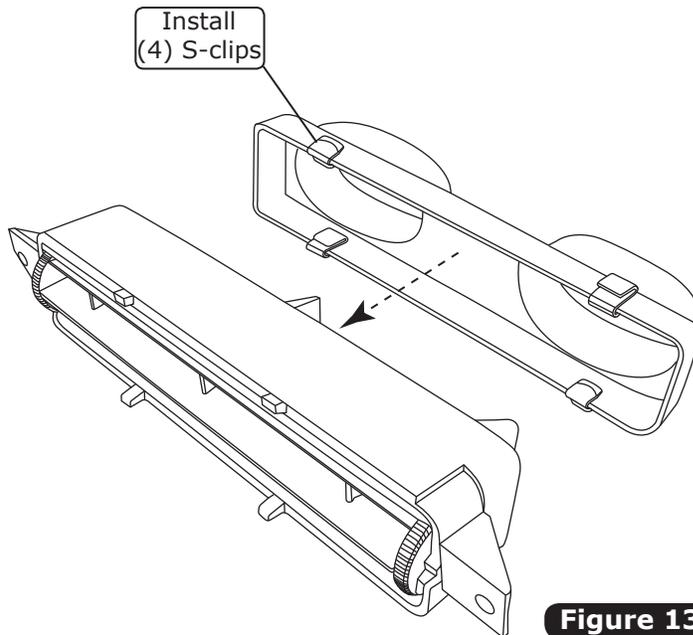

Figure 13
1. Install (4) S-clips on the hose adapter as shown in Figure 13, below.
2. Install center louver hose adapter outside the OEM center louver assembly as shown in Figure 13, below.